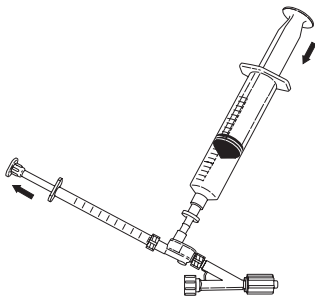

Fig. 4
6. Attach the 1 mL syringe to the injection port and aspirate 0.5 mL of solution. Detach the 1 mL syringe and purge all air bubbles from the syringe. Leave a meniscus of solution on the injection port before the 1 mL syringe is reattached by depressing the 20 mL syringe slightly to prime the injection port. Reattach the 1 mL syringe to the injection port. (Fig. 4)